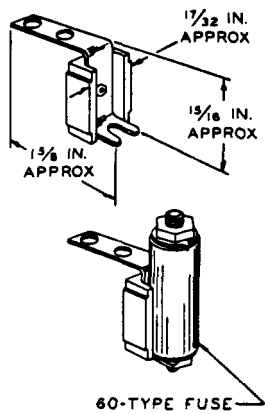

Fig. 17-The 14A Fuse Holder
10.02 Fuse holder is a fiber detail riveted to a Z-shaped metal bracket, see Fig. 17. Two holes are located in one leg for attachment to either binding post of a cable pair. Wire is connected under fuse nut as shown in Fig. 18.